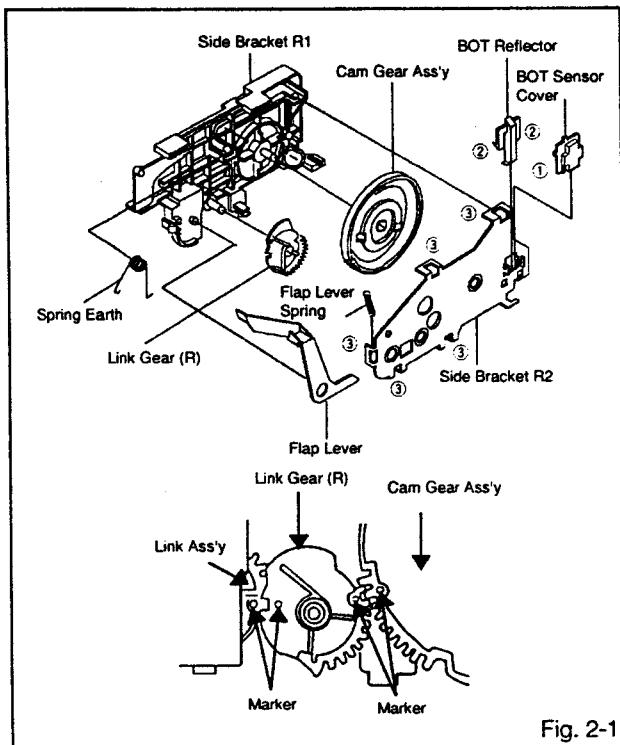

Fig. 2-1
### 2-1: LINK GEAR (R) / CLUTCH GEAR (Refer to Fig. 2-1)
1. Unlock support ①.
3. Unlock the 2 supports ② and remove the BOT Reflector.
5. Unlock the 5 supports ③.
7. Remove the Flap Lever, Link Gear (R) and Cam Gear Ass'y.